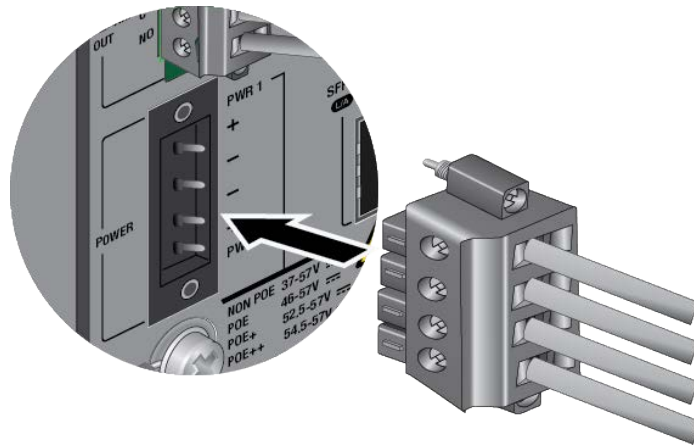

Figure 54. Connecting the DC Input Plug to the Power Connector
2. Connect the DC input plug to the Power connector on the front panel. Refer to Figure 54.